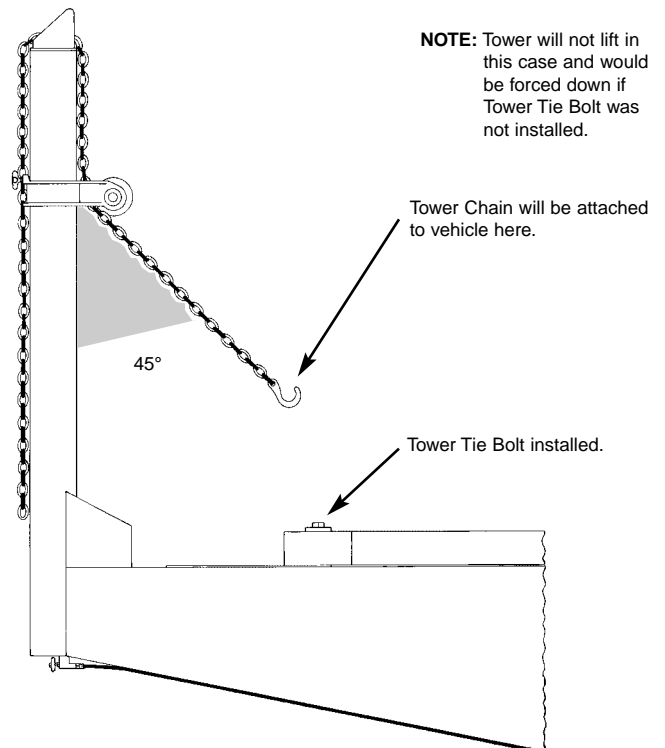

Figure 16
1. Tower does not lift up firmly against underside of mainframe when making a pull, for example: when pulling upward at 45 degree angle or less. (See Figure 16.)